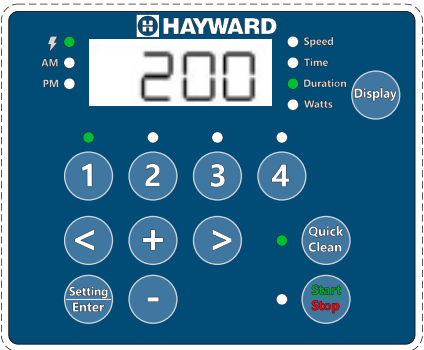

Figure 7
4. Press Quick Clean. The Quick Clean duration will display. The “Duration” parameter LED will blink while editing. **See Figure 7.**